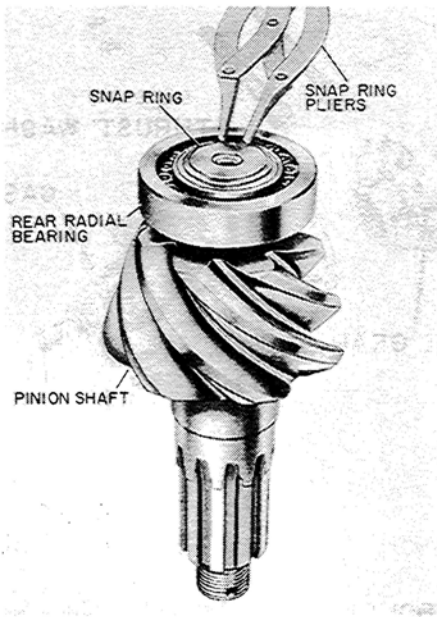

Figure T-52
2. Install the radial bearing lock ring after the bearing is pressed in place, Figure T-52.